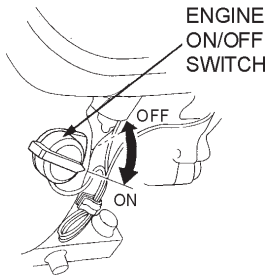

Figure 12. Engine ON/OFF Switch
2. Place the **Engine ON/OFF switch** (Figure 12) in the "ON" position.
6. If the engine has started, slowly return the choke lever (Figure 12) to the **CLOSED** position. If the engine has not started, repeat steps 1 through 5.
2. Place the **engine ON/OFF switch** (Figure 12) in the **"OFF"** position.